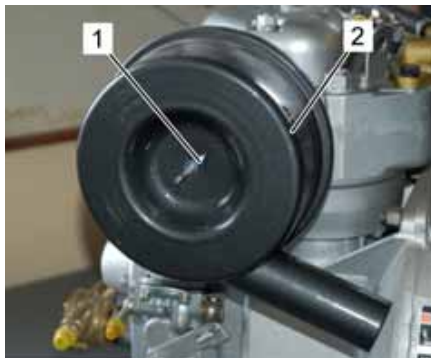

Fig. 81
5. Clean suction area (Fig. 83/4) and air filter cover (Fig. 81/2) thoroughly.